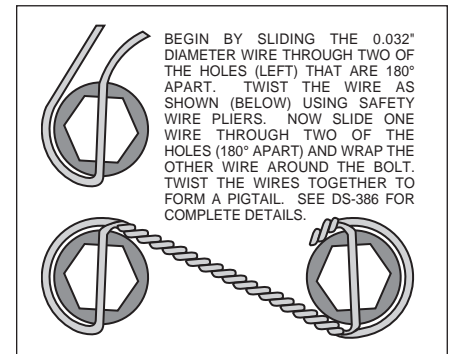

Figure 3. Safety Wire Diagram
- The caliper mounting bracket assembly (1) should be installed first with clean, dry threads on the mounting bolts. The bracket must tighten squarely against the inboard side of the caliper mount bosses on the spindle body. Inspect for interference from casting irregularities, machining ridges, burrs, etc. Slide bolt (2) through lock washer (3) then through the hole in the spindle body where the OEM bolt was removed. Use one thin shim (4) between the bracket and spindle during initial trial fitting. Later, after the caliper, pad and rotor alignment have been checked, and any necessary shims have been put in place, the mount bolts (2) should be coated with red *Loctite*® 271 and torqued to 47 ft-lb.
- With the larger I.D. side of the rotor (5) facing away from the hat (6), bolt rotor (5) to hat (6) through the backside of the rotor using washers (7) and bolts (8). Using an alternating sequence, apply red *Loctite*® 271 to the threads and torque bolts to 155 **in-lb**. For an added measure of security, the bolts may be safety wired using standard 0.032 inch diameter stainless steel safety wire as shown in Figure 3. Please refer to Wilwood's data sheet DS-386 (available at [www.wilwood.com/Pdf/DataSheets/ds386.pdf](http://www.wilwood.com/Pdf/DataSheets/ds386.pdf)) for complete safety wire installation instructions. Slide the rotor/hat assembly onto the spindle. Install a couple of lug nuts (hand tighten) to keep the rotor/hat assembly in place while continuing with the installation.
- With the bleed screws pointing up, mount the caliper (9) onto the caliper bracket (1) with the self locking hex nut (10), flat washer (11), through the top of the caliper and mounting stud (12) with .035" thick shim (13) and spacer (14) positioned between caliper (9) and caliper mounting bracket (1). Finger tighten. Check to see that the top of the rotor is aligned with the top of the brake pad. If adjustment is necessary, add or subtract flat washers (13). View the rotor (5) through the top opening of the caliper (9). The rotor (5) should be aligned in the center of the caliper (9). If not, adjust the caliper (9) by adding or subtracting shims (4) and/or (16) placed between the spindle assembly and the caliper mounting bracket (1). Finger tighten and recheck alignment. Lubricate caliper mounting studs and nuts with lightweight oil, reinstall the caliper, torque the caliper nuts (10) to 30 ft-lb.
- Remove the bridge bolt from the caliper (9) and install the disc brake pads (15). Reinstall the caliper bridge bolt.